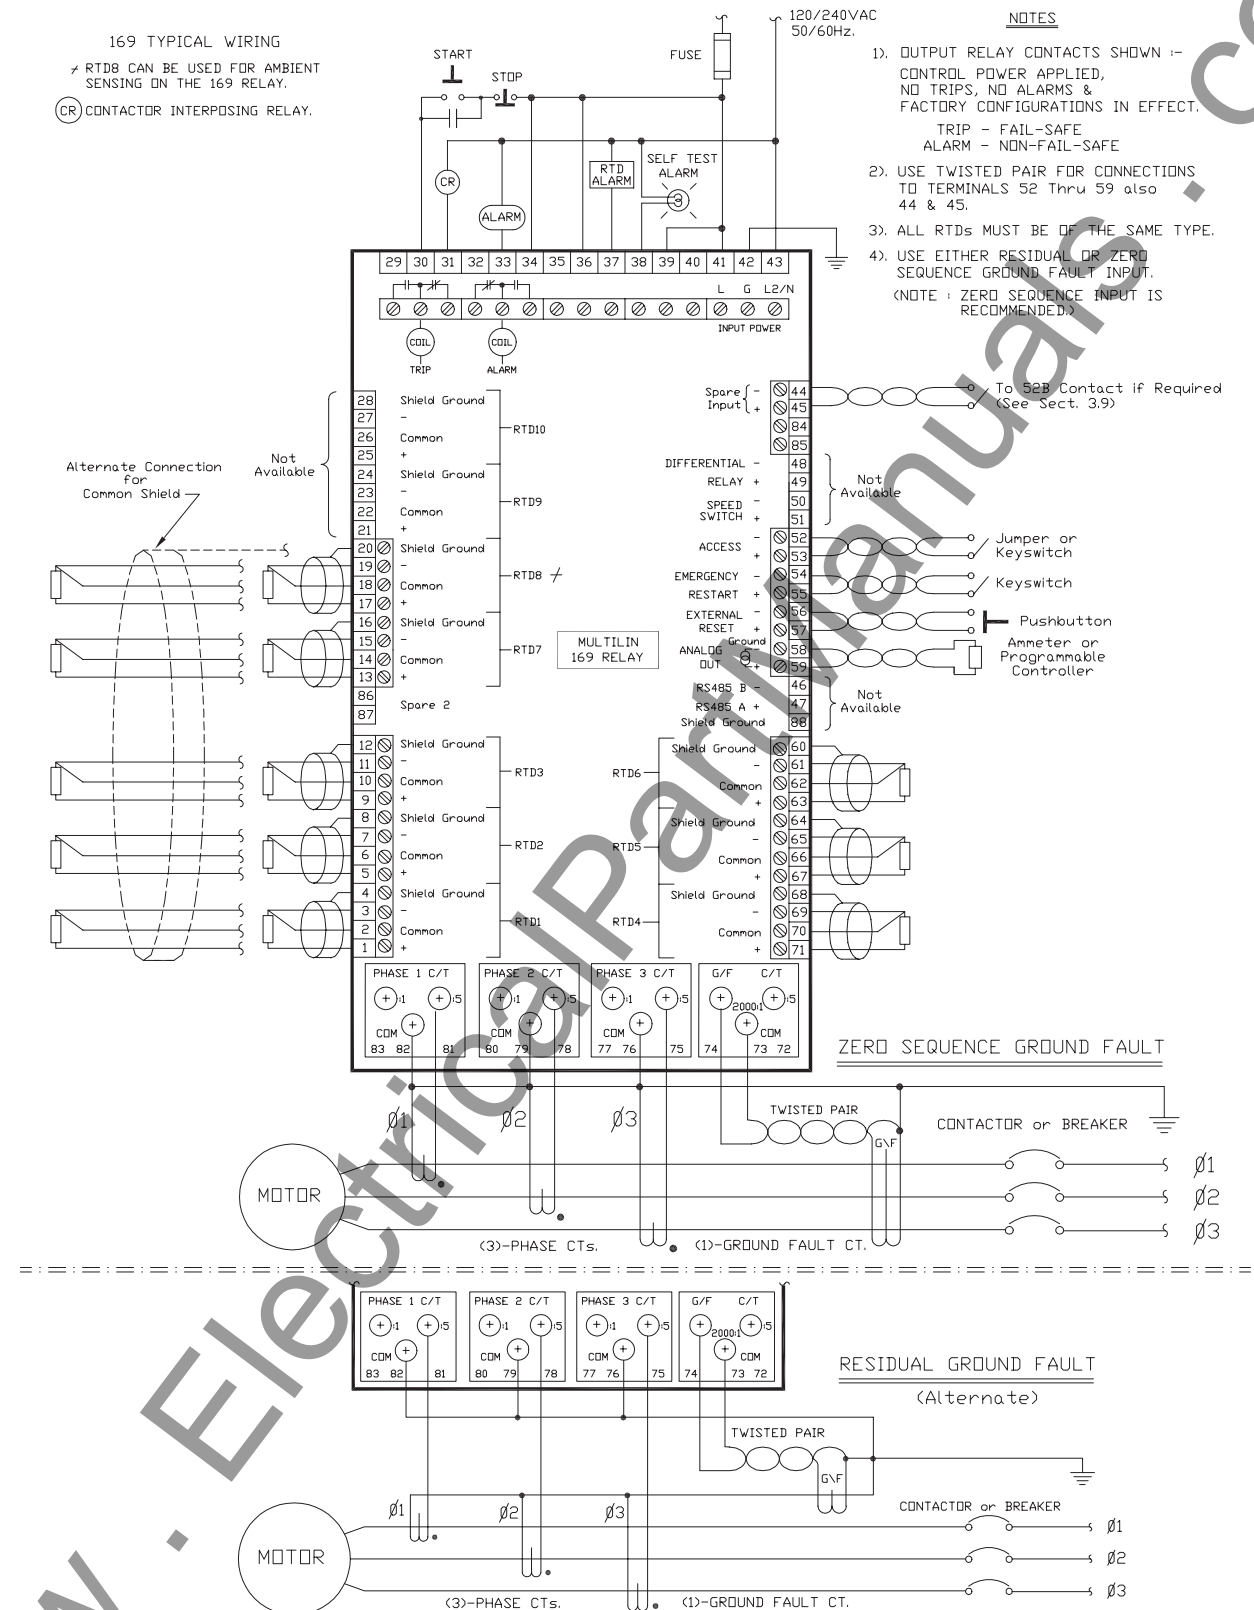
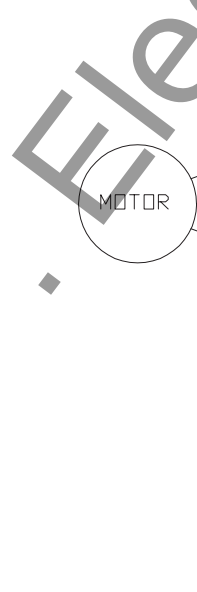

Figure 2-4 Relay Wiring Diagram (AC control power)
Figure 2-6 Relay Wiring Diagram (Two Phase CTs)
The connections made to the 169 relay will vary depending on the programming of the unit. It is not necessary to use all of the connections provided; a minimal configuration would include supply power, three phase current CT inputs and the Trip relay contacts wired in series with the contactor control relay or circuit breaker shunt trip coil. Connections to these and the other terminals outlined below will be explained in the following sections. Figures 2-4, 2-6, 2-7 show typical connections to the 169 relay.
NOTE: The rear of the 169 relay shows output relay contacts in their power down state. Figures 2-4, 2-6, 2-7 show output relay contacts with power applied, no trips or alarms, Factory Configurations, i.e. TRIP - fail-safe, ALARM - non-fail-safe, AUX.1 - non-fail-safe, AUX.2 - fail-safe). See Figure 2-5 for a complete list of all possible output relay contact states. See page 62 for a description of the RELAY FAILSAFE CODE.
One CT for each of the three motor phases is required to input a current into the relay proportional to the motor phase current. The phase sequence must be as shown in Figures 2-4 and 2-7 in order for the phase reversal function to operate properly. If two phase CTs are used as shown in Figure 2-6 the phase reversal function cannot be used (see section 3.19). The CTs used can have either a 1 amp or 5 amp secondary and should be chosen so that the motor full load current is between 50 and 95 percent of the rated CT primary amps. The CT ratio should thus be of the form  $n:1$  or  $n:5$  where  $n$  is between 20 and 1500. The ratio of the CT used must be programmed into the 169 (see section 3.7).
The ground fault CT is connected to terminals 73 and 72 for 5 amp secondary CTs or to terminals 73 and 74 for Multilin 2000:1 CTs, as shown in Figures 2-4, 2-6, 2-7. The polarity of the ground fault CT connection is not important. It is recommended that the two CT leads be twisted together to minimize noise pickup. If a 2000:1 ground fault CT is used, the secondary output will be a low level signal which allows for sensitive ground fault detection.
The main control relay or shunt trip coil of the motor starter or circuit breaker should be connected to the Trip relay contacts of the 169. These contacts are available as normally open (NO), normally closed (NC), and can switch up to 10 amps at either 250 VAC or 30 VDC with a resistive load. Silver cadmium oxide contacts are used because of their ability to handle high inrush currents on inductive loads. Contact Multilin if these contacts are to be used for carrying low currents since they are not recommended for use below 0.1 amps. Connection to the motor contactor or breaker is shown in Figures 2-4, 2-6, 2-7.
**NOTE: The rear of the 169 relay shows output relay contacts in their power down state. Figures 2-4, 2-6, 2-7 show output relay contacts with power applied, no trips or alarms, and Factory Configurations in effect (i.e. TRIP - fail-safe, ALARM - non-fail-safe, AUX.1 - non-fail-safe, AUX.2 - fail-safe). See Figure 2-5 for a list of all possible contact states.**
Each RTD has four connections to the 169 relay as shown in Figures 2-4, 2-6, 2-7. Since the RTD indicates temperature by the value of its resistance, it is necessary to compensate for the resistance of the connecting wires, which is dependent on lead length and ambient temperature. The 169 uses a circuit to cancel this resistance and read only the actual RTD resistance. Correct operation will occur providing all three wires are of the same length and the lead resistance is not greater than 25% of the RTD 0 °C resistance. This can be accomplished by using identical lengths of the same type of wire. If 10  $\Omega$  copper RTDs are to be used special care should be taken to keep the lead resistance as low as possible.
RTD2, and RTD3 (terminals #1-12). Other RTDs should be connected to the terminals for RTD7-RTD10 (terminals #13-28) as shown in Figure 2-4.